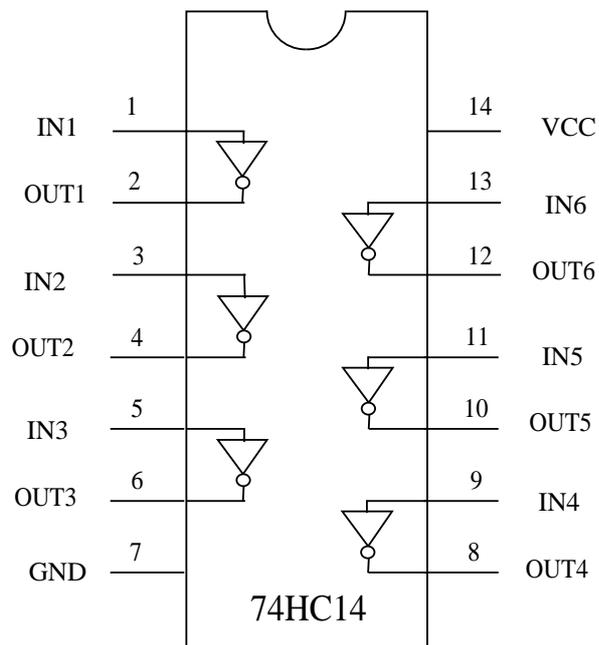

Figure 2: Pin assignments for the 74HC14 inverter chip.
- (4-2) Following your design from Pre-Lab Exercise 4-1, construct the clock using the 74HC14 inverter chip obtained earlier. Figure 2 shows the pin assignments for the inverter chip. Use any two of the inverters in the chip, and leave the others unconnected. Do not yet connect the clock output  $v_{CLK}$  to the clock input of the counter. Rather, use one channel of the oscilloscope to observe the oscillator output  $v_{OSC}$ , and trigger the oscilloscope from that channel. Use the other channel to observe  $v_{CAP}$  and the clock output  $v_{CLK}$ . Compare what you observe with the oscilloscope to the graph prepared during Pre-Lab Exercise 4-2 to determine whether or not the clock is functioning properly. In particular, the clock output  $v_{CLK}$  should remain between 0 V and 5 V so as not to damage the counter which it drives. Also test whether the output signal is around 8 kHz.